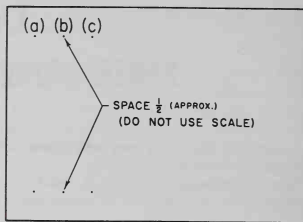

Fig. 2-4. Layout for Section B, Plate No. 4.
1. In section B, sketch vertical lines between the three sets of points: a, b and c, as shown in Fig. 2-4.